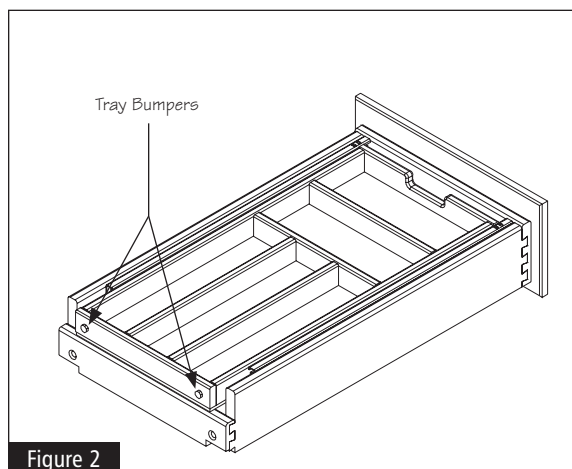

Figure 2
- 3** Attach two (2) Tray Bumpers to the back of the sliding tray (see Figure 2).